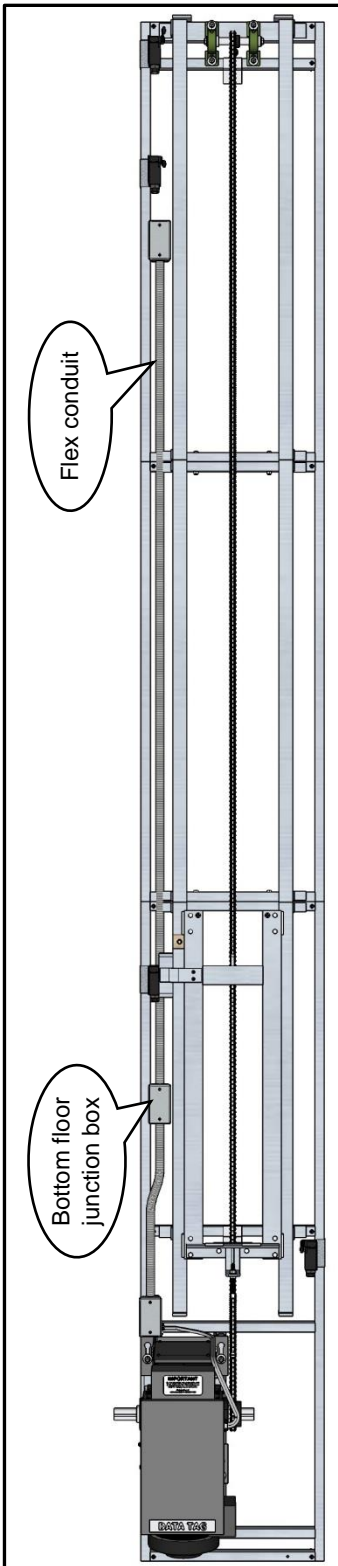

Figure 18
- 1** Lower flex conduit from top floor and connect to junction box at bottom floor. (see Figures 18 & 19)